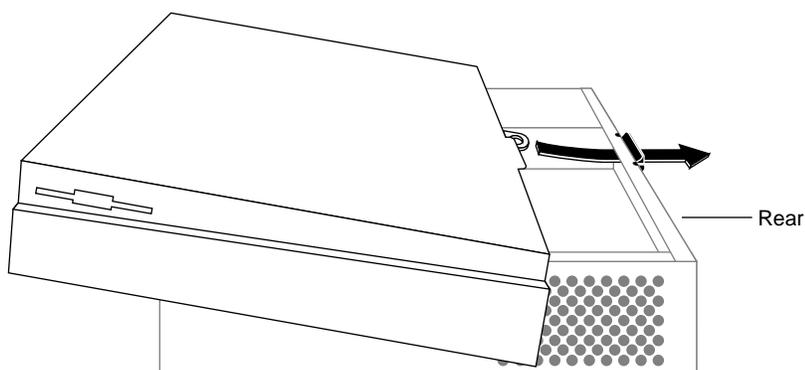

Figure 2-21 Replacing the Top Cover
1. Facing the front of the system, lower the cover a few inches from its fully closed position, as shown in Figure 2-21.